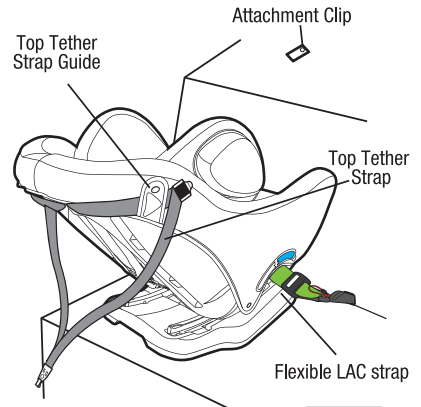

Figure 5
Step 5: Locate the adjuster at the side of the restraint and secure using the top tether strap guide (refer Figure 5 & 6).